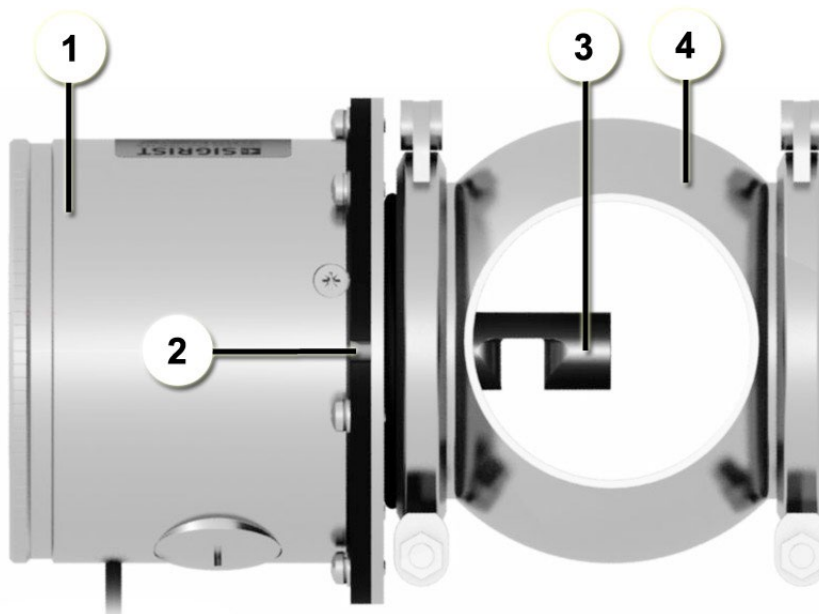

Figure 3: Position of the sensor in horizontal mounting
①	Photometer	③	Sensor with measurement opening pointing downward
②	Centering pin on the instrument	④	Varivent® sample line
- In the vertical mounting position, the centering pin (2, Figure 3) must point upward (X, Figure 4).
- In the horizontal mounting position, the centering pin (2, Figure 3) must point to the right (Y, Figure 4).